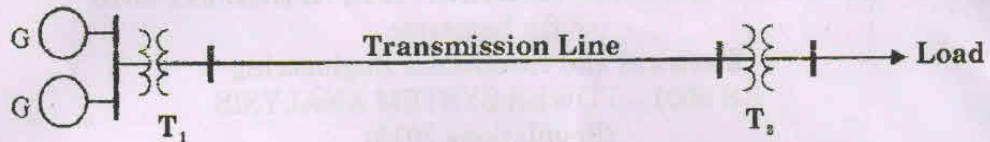

Figure 1
11. a) i) In the single line diagram shown in figure 1, each three phase generator G is rated at 200 MVA, 13.8 kV and has reactances of 0.85 pu and are generating 1.15 pu. Transformer T_1 is rated at 500 MVA, 13.5 kV/220 kV and has a reactance of 8%. The transmission line has a reactance of 7.8 Ω .